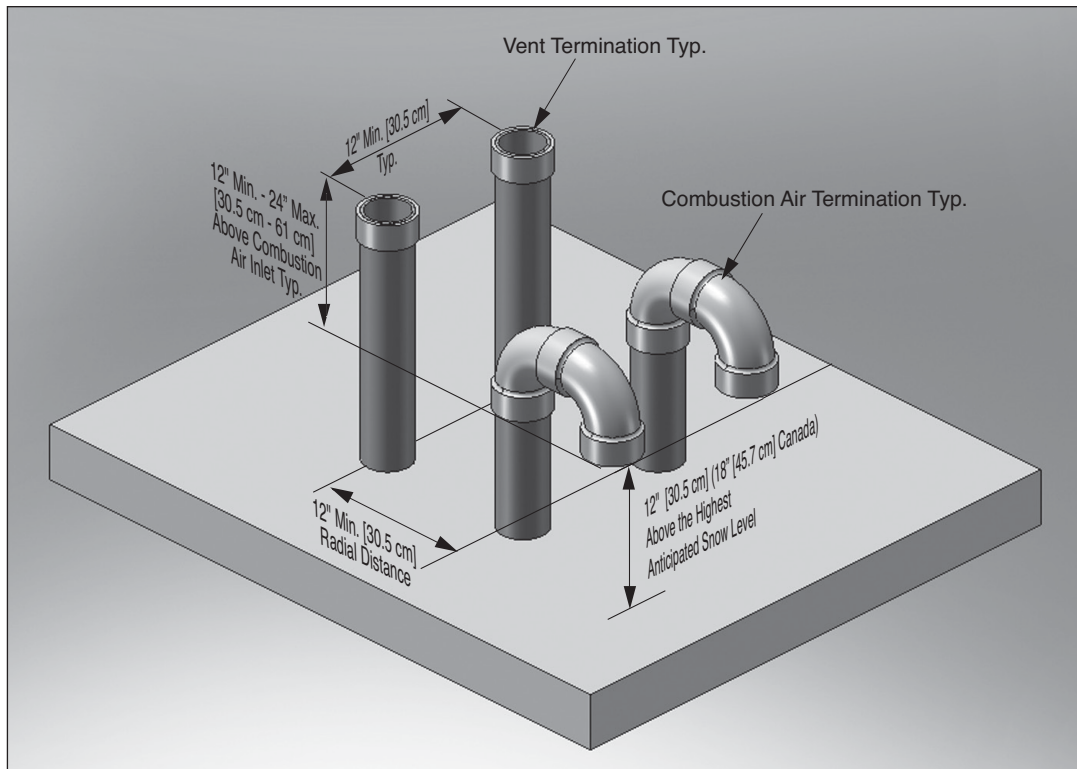

Fig. 5 - Direct Vent - Vertical Termination of Multiple HeatMaster TC Combination Boilers / Water Heaters
2. The roof penetration of the vent and combustion air piping must be such that the combustion air inlet is a minimum 12" [30.5 cm] from the adjacent vent pipe of the other combination boiler / water heater for installations in the U.S. as shown in *Fig. 5* on page 10. For installations in Canada, provide clearances as required by CAN/CSA B149.1.